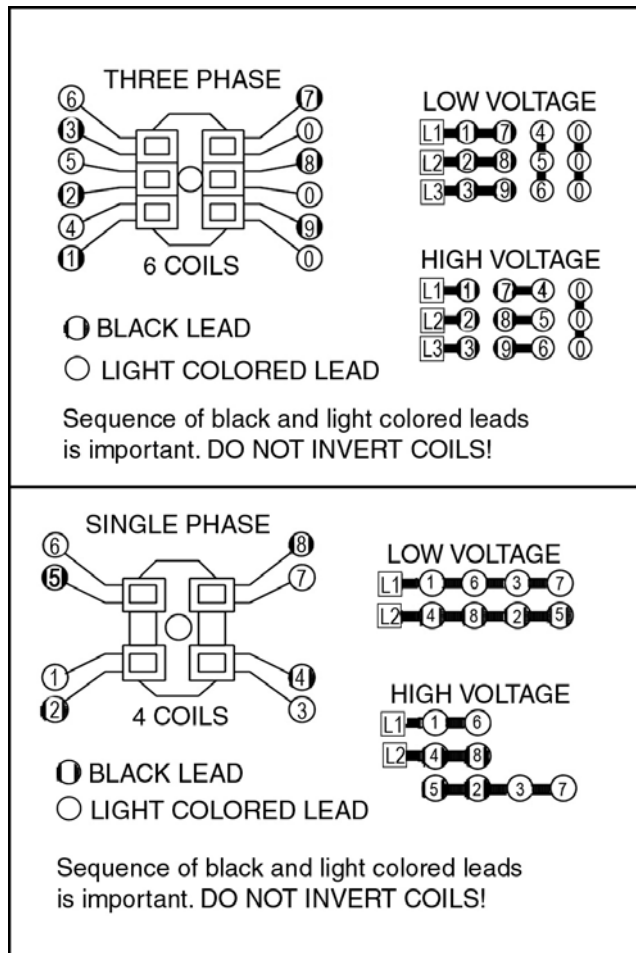

Figure 2. Wiring Diagram
5. Connect coil leads per appropriate wiring diagram in Figure 2 and
When installing coils, it is very important to follow EXACTLY the sequence of black and light colored leads as shown in wiring diagram (Figure 2). The brake will not operate properly unless coils are all in the correct position.